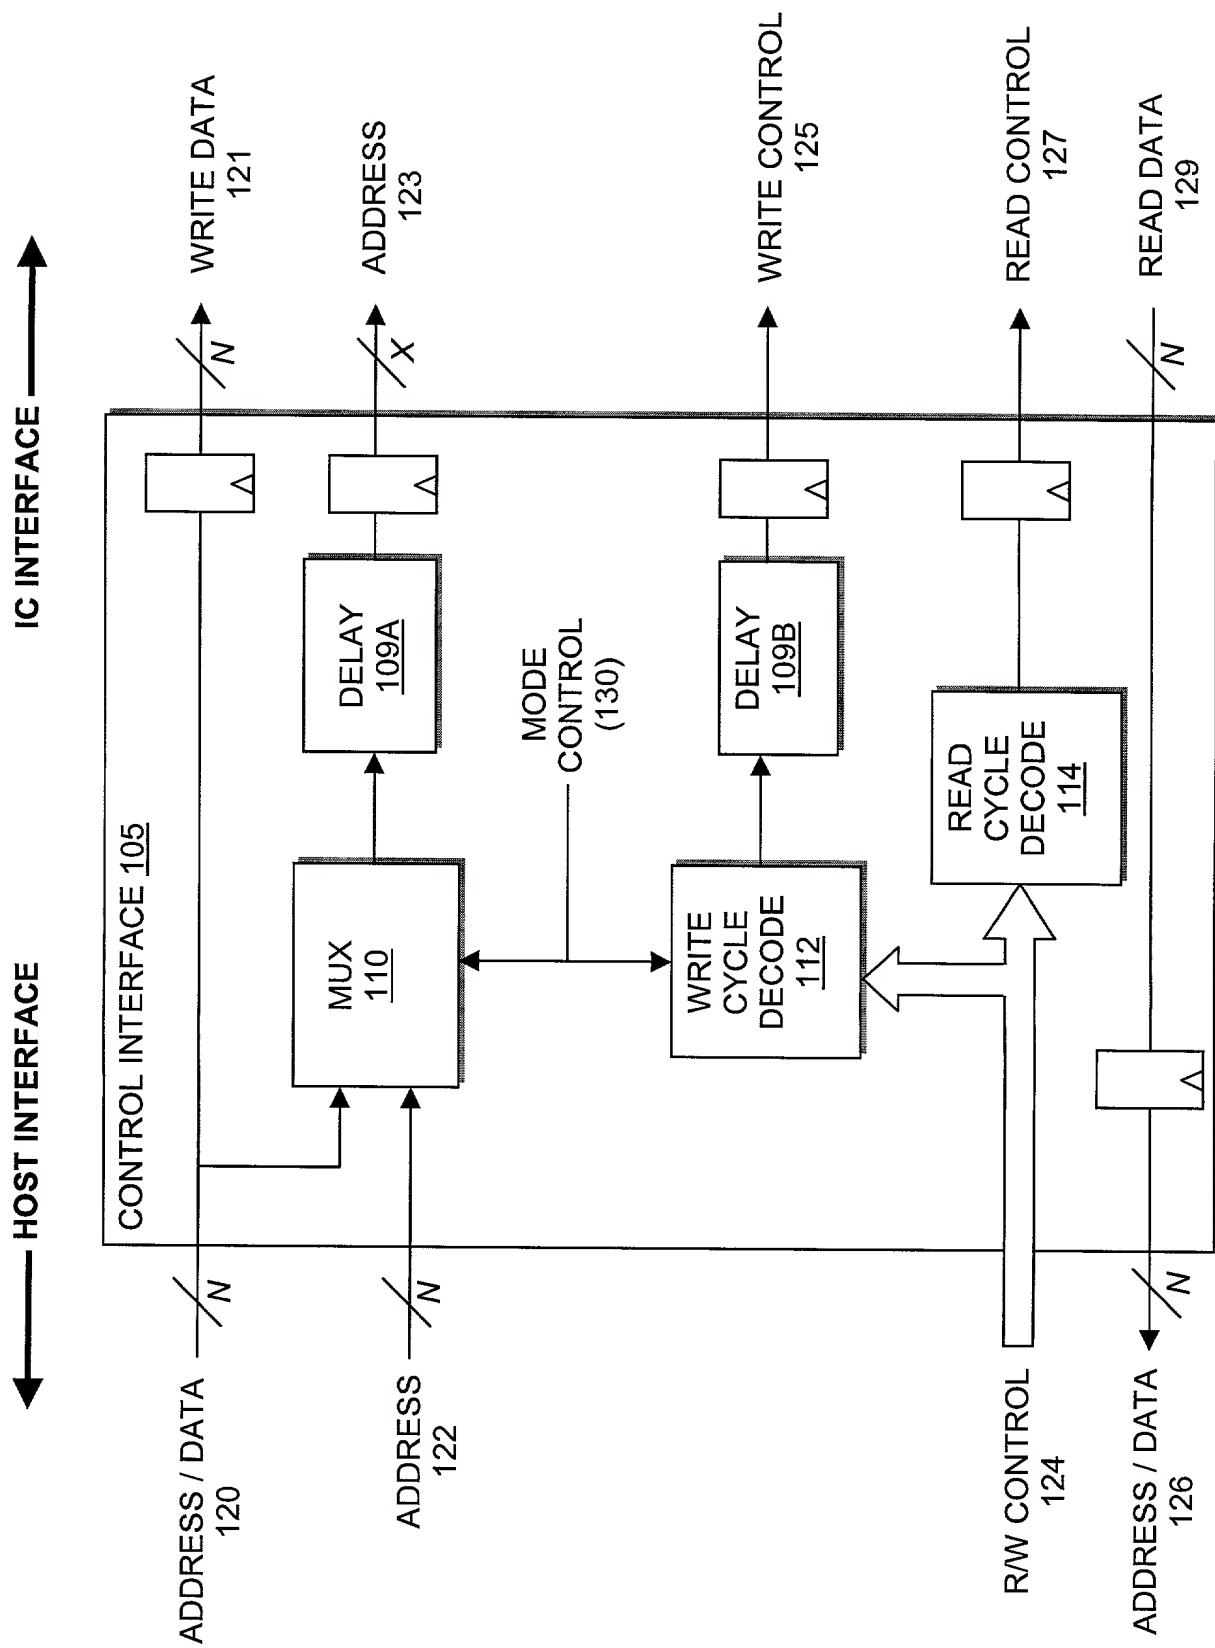

FIG. 2
FIG. 2 is a block diagram of a control interface 105 for a memory device. The control interface 105 is connected to a host interface and an IC interface. The host interface includes an ADDRESS / DATA bus 120, an ADDRESS bus 122, an R/W CONTROL signal 124, and an ADDRESS / DATA bus 126. The IC interface includes a WRITE DATA bus 121, an ADDRESS bus 123, a WRITE CONTROL signal 125, a READ CONTROL signal 127, and a READ DATA bus 129. The control interface 105 contains a MUX 110, a WRITE CYCLE DECODE block 112, a READ CYCLE DECODE block 114, a MODE CONTROL (130), a DELAY block 109A, and a DELAY block 109B. The MUX 110 receives ADDRESS / DATA 120 and ADDRESS 122, and outputs WRITE DATA 121. The MUX 110 is controlled by MODE CONTROL (130). The WRITE CYCLE DECODE block 112 receives ADDRESS 122 and MODE CONTROL (130), and outputs WRITE CONTROL 125. The READ CYCLE DECODE block 114 receives ADDRESS 122 and MODE CONTROL (130), and outputs READ CONTROL 127. DELAY block 109A is connected between the MUX 110 and ADDRESS 123. DELAY block 109B is connected between the WRITE CYCLE DECODE block 112 and WRITE CONTROL 125. ADDRESS / DATA 126 is connected to ADDRESS 122. ADDRESS 123 is connected to ADDRESS / DATA 126. WRITE DATA 121 is connected to ADDRESS / DATA 120. WRITE CONTROL 125 is connected to ADDRESS / DATA 126. READ CONTROL 127 is connected to ADDRESS / DATA 126. READ DATA 129 is connected to ADDRESS / DATA 126.